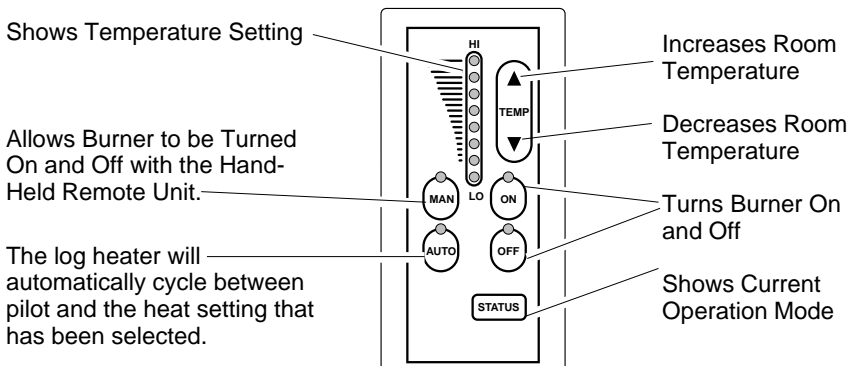

Figure 21 - Thermostat Hand-Held Remote Control Unit Selections
- 2b. Select the MAN (manual) or AUTO button on the hand-held remote control unit (see Figure 21, page 17).